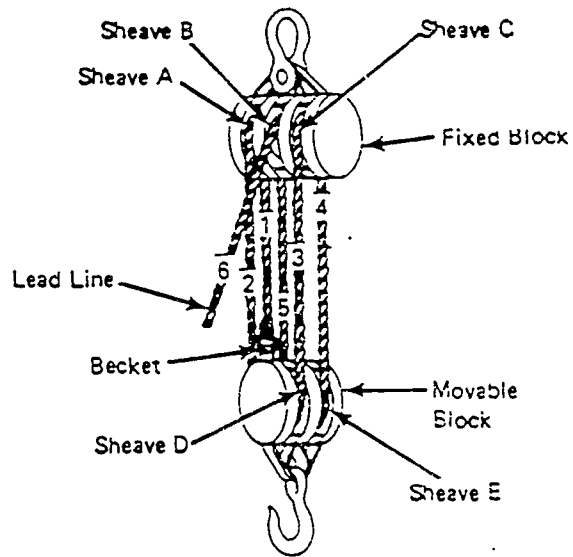

Figure 1-2. Reeving a Two- and Three-sheave Block
When reeving a pair of tackle blocks, one of which has more than two sheaves, the hauling part (lead line) should lead from one of the center sheaves of the upper block. This puts the lifting strain on the center of the block and keeps it from twisting and damaging the rope. Figure 1-2 shows how a two-sheave block and a three-sheave block are reeved. This system has a five-part fall.
3. J.W. is feeding lines into the blocks in a five-part fall system similar to that in Figure 1-2. What sheave should the lead line be fed through?